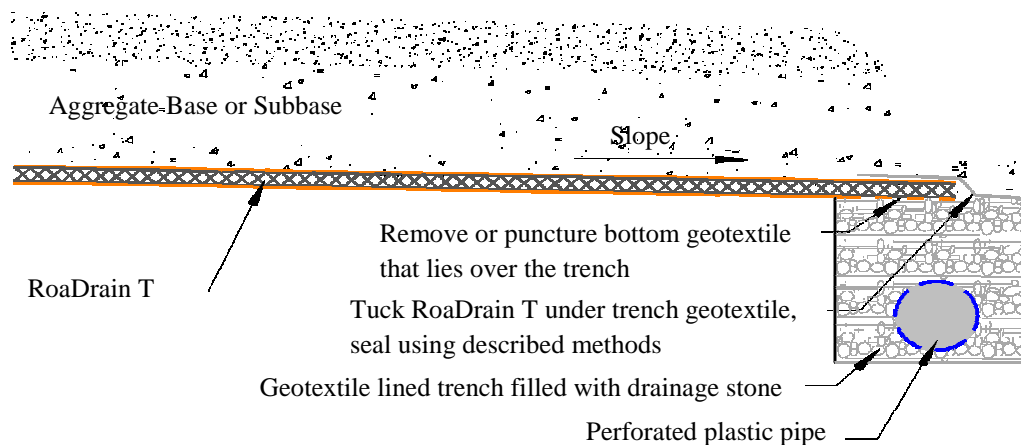

Figure 1. Typical Edge Drain Detail
3. The engineer shall verify that the surface of the area to receive the RoaDrain T is smooth and well compacted, with no voids or humps, and has the proper design grade that slopes towards the edge drain or other water collection structure as shown in figure 1. If no edge drain or water collection structure is present, one must be added.
- RoaDrain T can be made to fit any width or length by cutting the material. Long cuts are best made with a contractors saw employing an abrasive (non-toothed) blade. Shorter cuts can be made with a sharp serrated blade utility knife. Cutting exposes the core edge. All exposed core edges (except the edge connected to the edge drain, see figure 1) shall be wrapped with a strip of geotextile and secured utilizing methods described above.